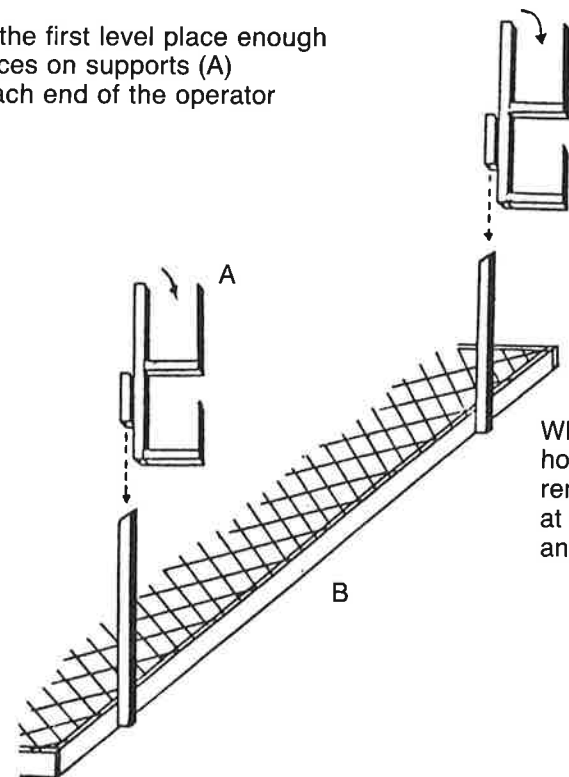

fig. 4
When the platform reaches the first level place enough X-braces and horizontal braces on supports (A) provided, and installed at each end of the operator walkway (b). See fig. 4